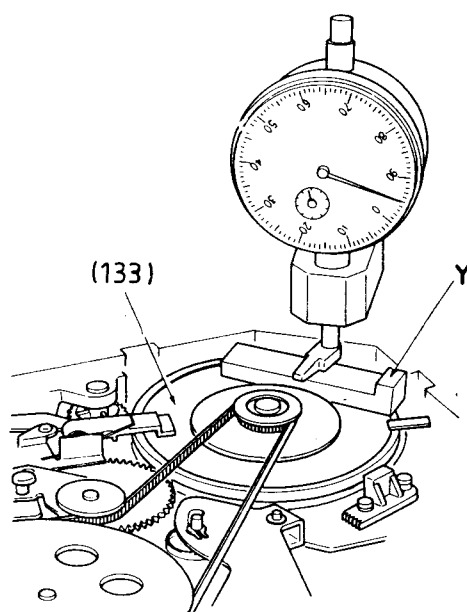

Fig. 20
- Place the Height Gauge "Y" onto the Capstan Rotor (133) and the Dial Height Gauge as shown in Fig. 20 onto the smooth area on the edge of the mechanics. Set the pointer of the Dial Height Gauge to zero.